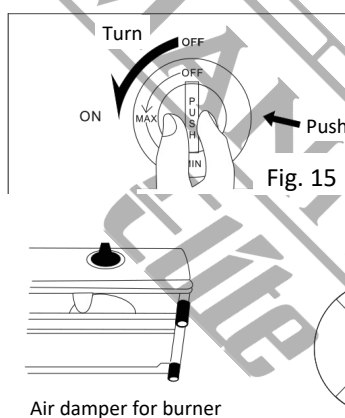

Fig. 15
a. Open the main gas valve. Push the gas control knob in and turn it towards the MAX position (counter-clockwise) until you hear the click. Make sure that the burner has been lit (Fig.15) in this position, double burner will light up both the small and large burners. To use only the small burner, release the gas control knob and turn it further to the MIN position. (Fig. 16)